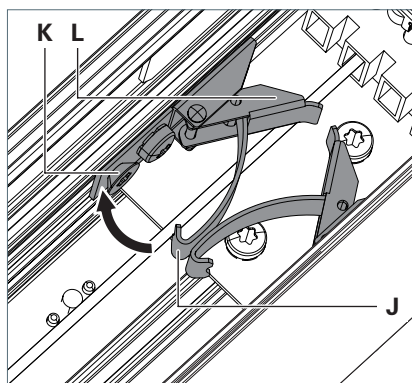

Fig. 24: Fastening the luminaires.
- Hang the bracket **J** into the screw **K**, see Fig. 24.